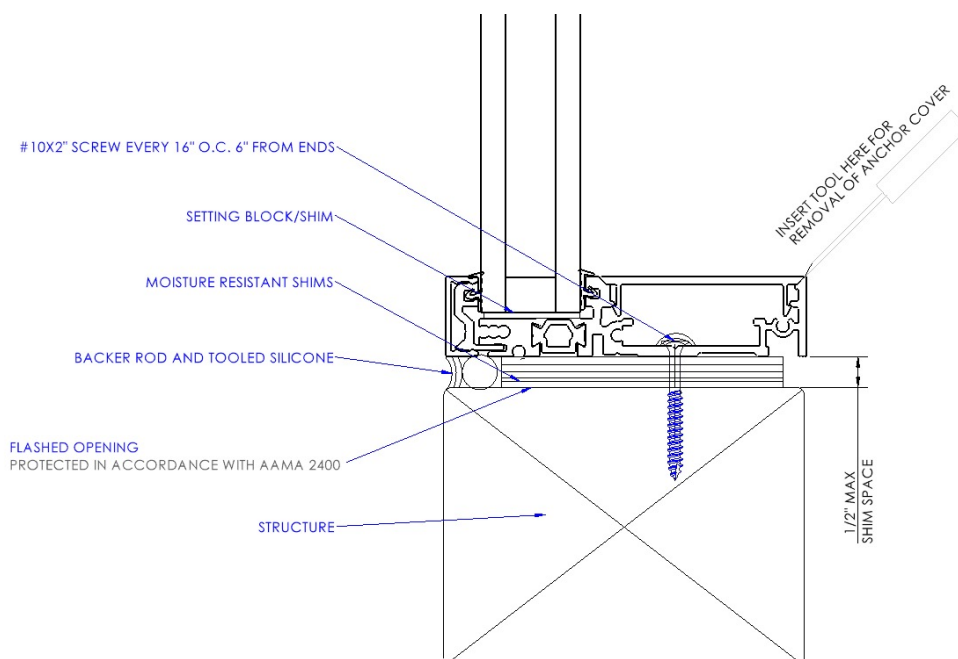

Figure 2
4. With a thin pry bar or thin putty knife, locate the edge of the interior cover to the frame joint and pry the cover off the frame. (See Figure 2).